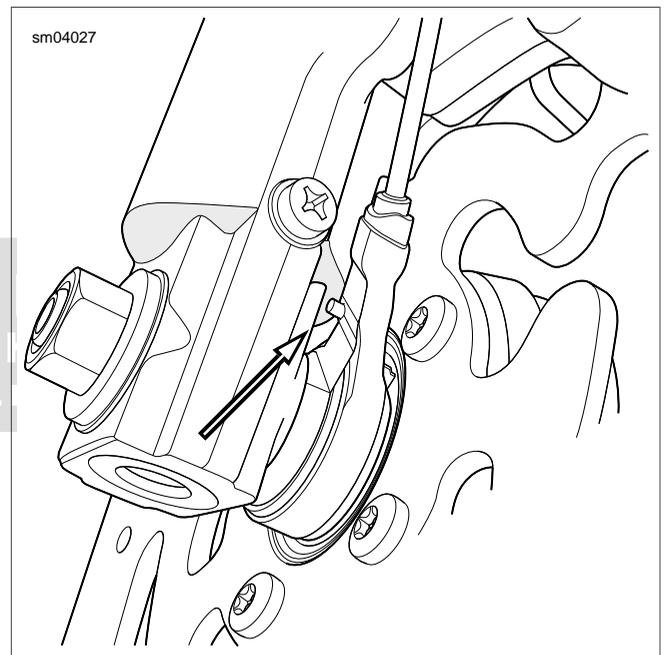

Figure 2-4. Front Wheel Speed Sensor Index Pin (ABS Equipped)
7. See Figure 2-4. If ABS equipped, rotate front wheel speed sensor in a counter-clockwise direction until index pin makes contact with shoulder on left fork slider.